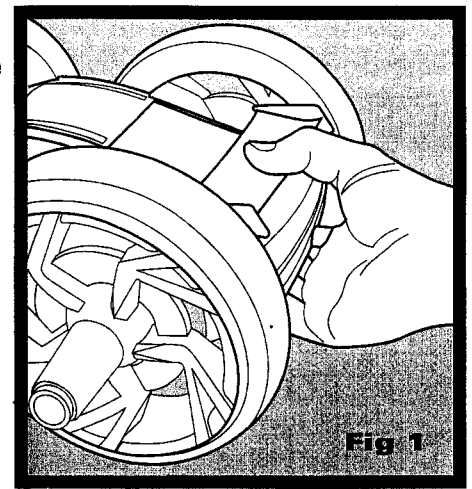

Fig 1
- Don't touch or try to pick up vehicle when it is in motion. Wait until it stops completely. Hold vehicle by back end as shown in Fig. 1 of these instructions (next page). Never pick up by the wheels.
Always pick up and hold your EdgeRunner vehicle from the back as shown, or from the front and back with both hands. Keep hair, hands, fingers, face and loose clothing away from wheels while the vehicle is switched on or while the transmitter is operating. Never pick up by the wheels. (Fig. 1)